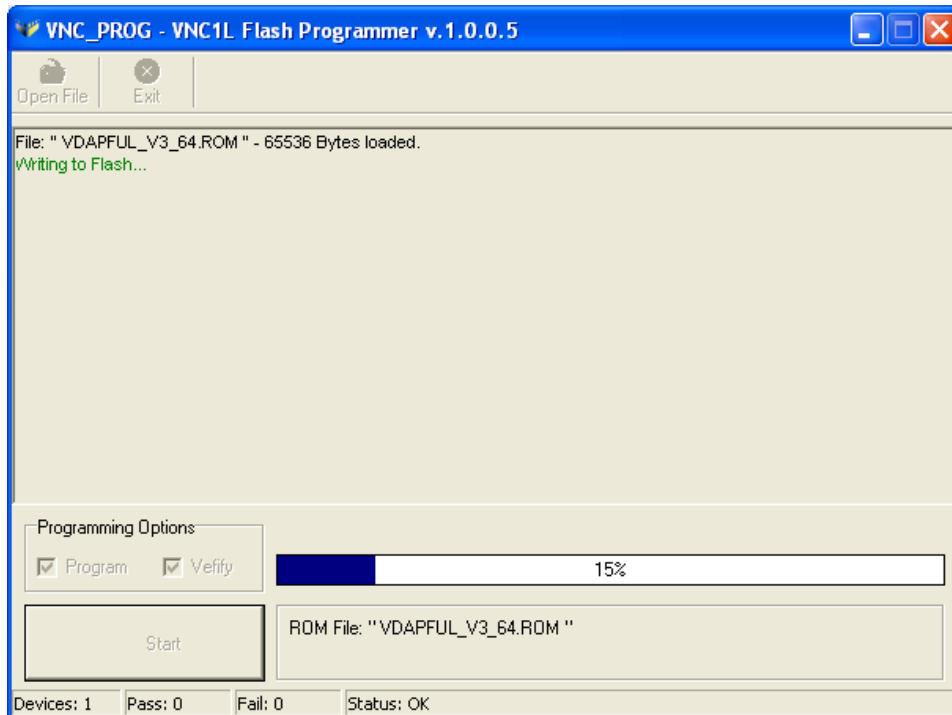

Figure 3.6 VPROG-1 Progression of Programming VNC1L-1A
4. Check that the MPOWER LED remains ON for approximately 10s during the programming cycle. Check that the user interface appears as shown in Figure 3.6 as the programming progresses.